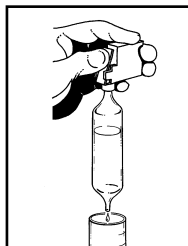

Figure 4
6. While holding the double-tipped ampoule in a vertical position, snap the upper tip using the tip breaking tool (fig. 4).
7. Invert the ampoule and position the open end over the reaction tube. Snap the upper tip and allow the contents to drain into the reaction tube (fig. 4).